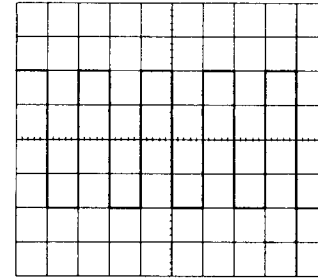

Figure 4-3
- 5) Set the AC-GND-DC switch to the AC state. A waveform as shown in the figure 4-3 will be displayed on the CRT screen
- 8) Adjust the ▲ ▼ POSITION and ◀ ▶ POSITION controls in appropriate positions so that the displayed waveform is aligned with the graticule and voltage(Vp-p) and period(T) can be read conveniently. The above are the basic operating procedures of the oscilloscope. The above procedures are for single-channel operation with CH 1. Single-channel operation with CH 2 can also be achieved in a similar manner. Further operation methods are explained in the subsequent paragraph.